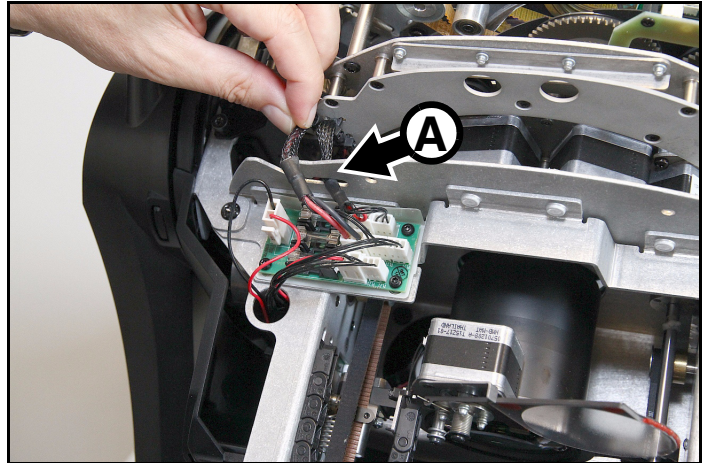

Figure 10: Multi-module wireset routing
2. See Figure 10. Unhook the multi-module wiresets from their cutout **A** in the zoom/focus module chassis.